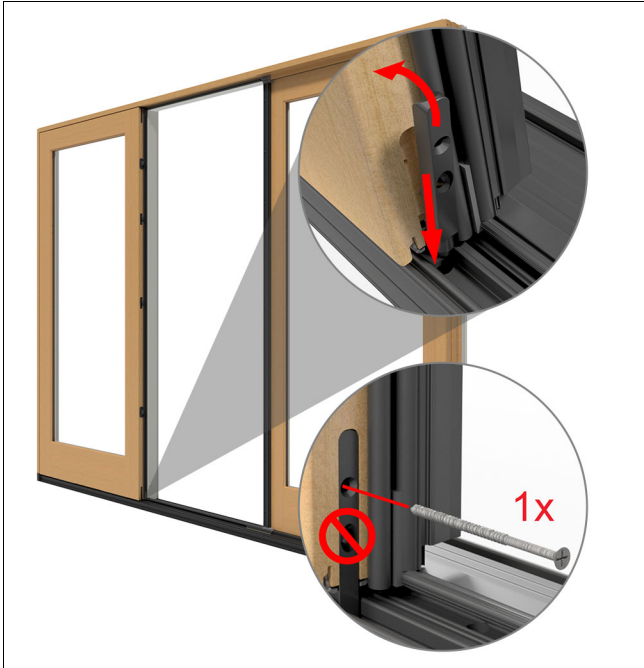

Figure 37
15. Install the end of the stationary bolt into the sill. Slide the bolt into place and fasten to the stationary panel with one #8 x 3" screw. See Figure 37.